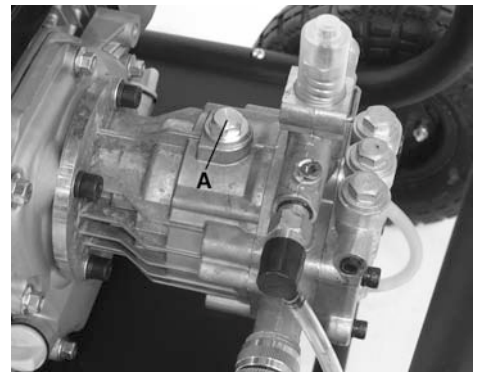

Figure 16
Pump oil should be annually replaced with approx. 85 ml of SAE 30 non detergent oil or AW32 hydraulic anti-wear oil (accessory #KW-127). To replace pump oil, undo oil bolt (A) Fig.16, and drain pump oil. Once oil has completely drained, fill with recommended oil. Retighten oil bolt.